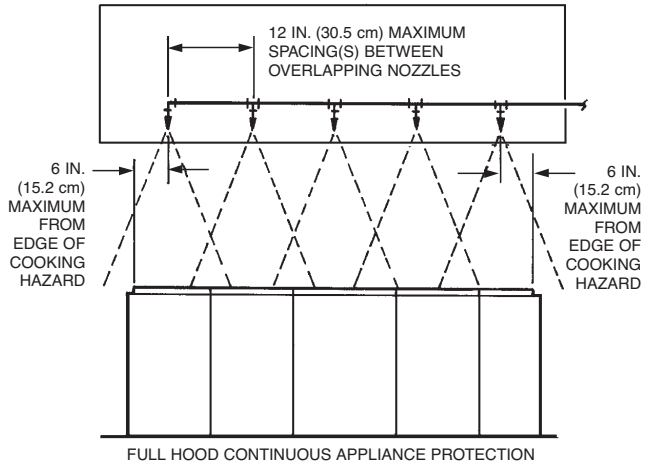
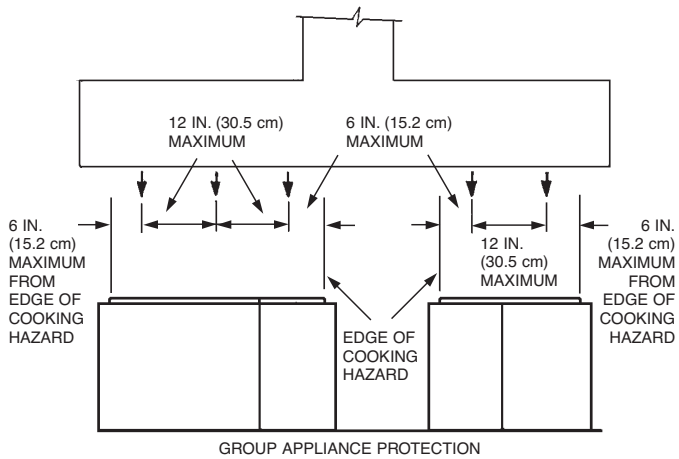

FIGURE 91d
FIGURE 91e
See Figure 91d (full hood continuous protection) and Figure 91e (multiple group protection).
1. For each group of protected appliances under a common hood(s), the overlapping nozzles must be located from right to left so that each end nozzle is located a maximum of 6 in. (15.2 cm) inside the outside edge of the cooking hazard of each end appliance, and the inside overlapping nozzles must be located between the two end nozzles at a maximum spacing of 12 in. (30.5 cm). See Figures 91d and 91e.